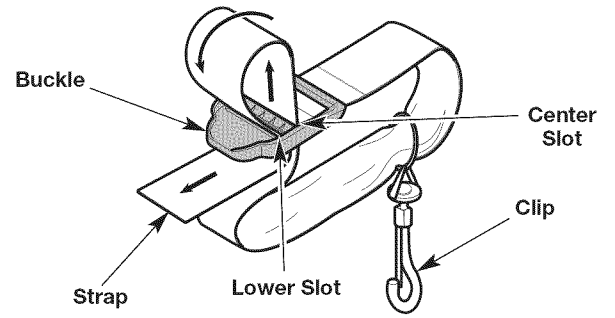

Fig. 8
1. Push the strap up through the center slot in the buckle (Fig. 8).
2. Bend the strap over and push it down through the lower slot in the buckle (Fig. 8).